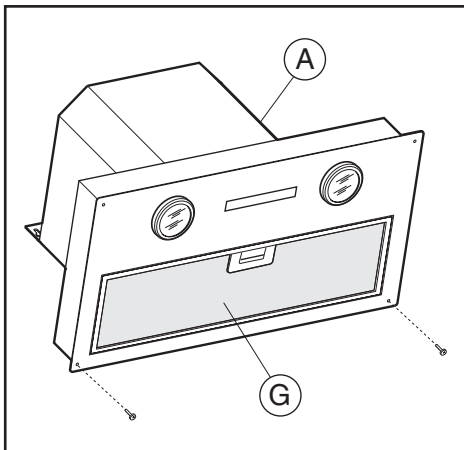
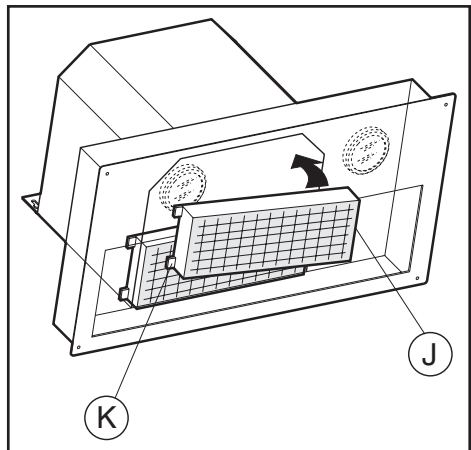

Fig.2
Fig.3
Fit the pivots (K) in the appropriate slots (Fig.3) then, using the appropriate handles, and with a turning movement towards the top slot in the pivots (J) which are located next to the handle. To do this operation remove the grill G (Fig.2).